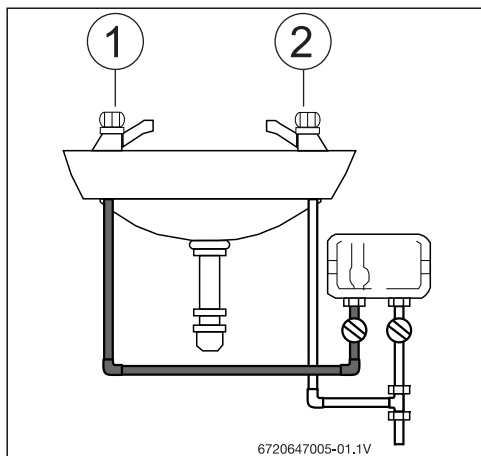
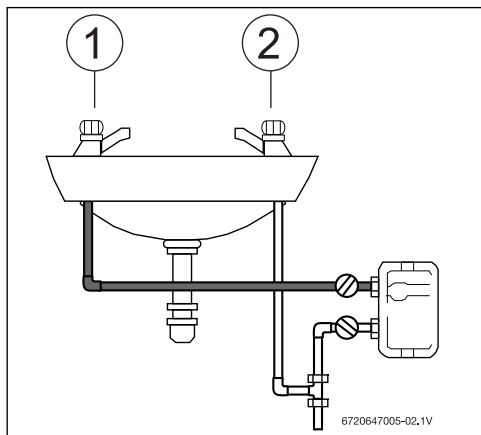
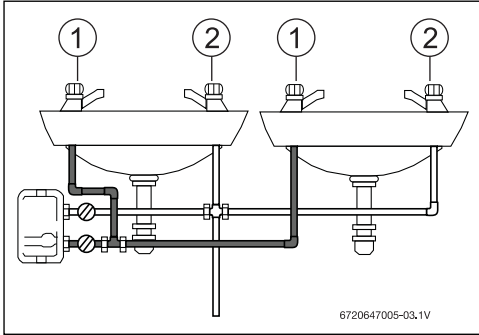

Fig. 6 Example of installation (front view)
Fig. 7 Example of installation (front view)
Fig. 8 Example of installation (front view)
- ▶ The heater must only be wall mounted and positioned with the water connections located either at bottom or the right side of the unit see Fig. 6. Under no circumstances should the heater be mounted differently.
- ▶ Mount only as shown in Fig. 6, Fig. 7 and Fig. 8 with the water connections located either at the right side, left side or bottom of the unit.